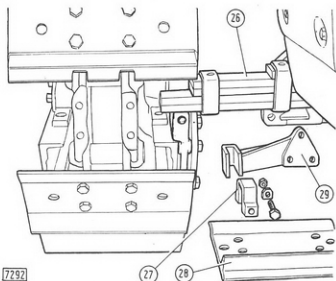

Fig. 107 - Front View of Suspension Leaf Spring
- Suspension mounting brackets (27, Fig. 107), track shoes (28) and braces (29).
- Remove leaf spring suspension mounting brackets (27, Fig. 107) associated track shoes (28) and braces (29).